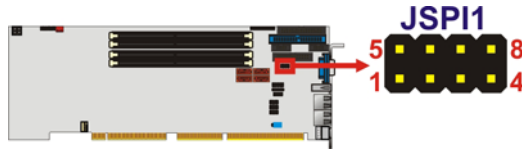

Figure 4-14: SPI Flash Connector Location
- Jumper Location:** See Figure 4-14